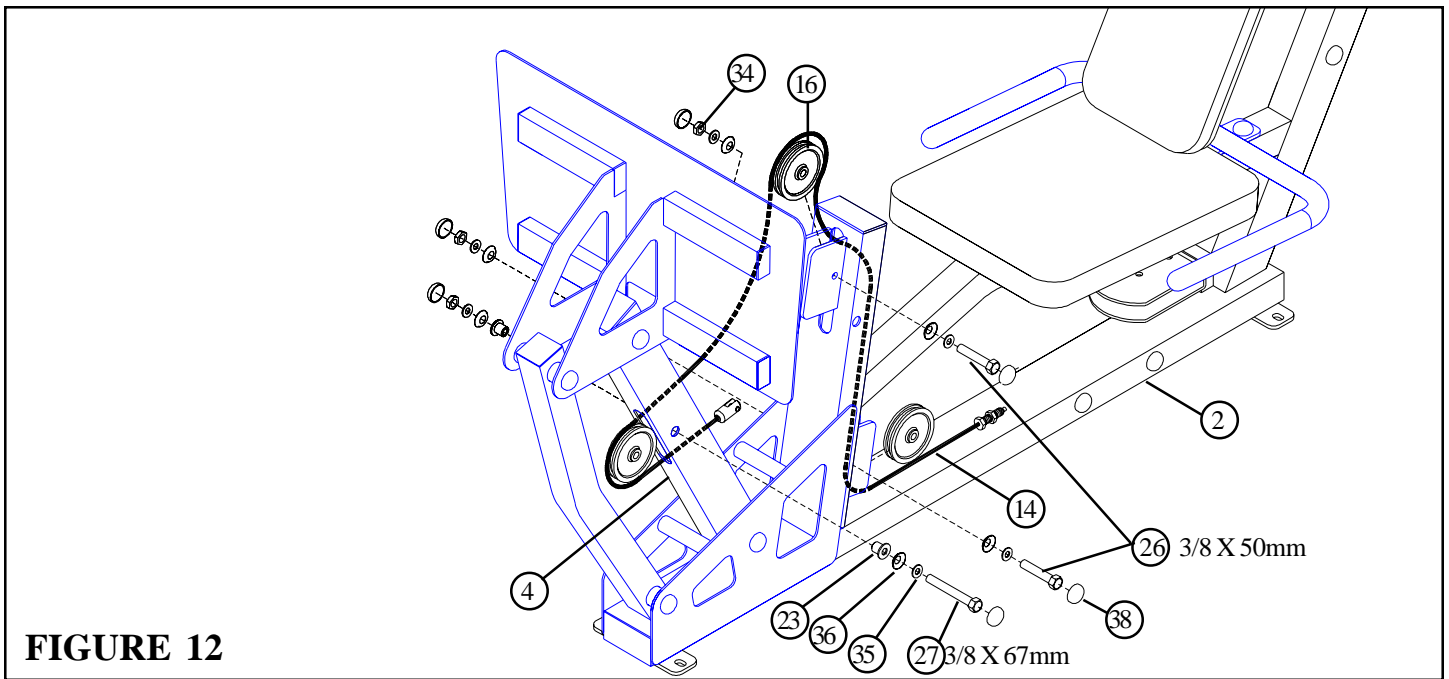

FIGURE 12
- Route the LEG PRESS CABLE (14) through the MAIN PIVOT ARM (4) as shown, and **SECURELY** assemble one 4-1/2" PULLEY (16) to the MAIN PIVOT ARM (4) using two RH CAPS (38), one 3/8 X 67mm BOLT (27), two 3/8 X 1/2" FLANGE SPACERS (23), two 3/8" SAE WASHERS (35), two 3/8" RH WASHERS (36) and one 3/8" LOW HEIGHT LOCK NUT (34) as shown in FIGURE 12.
- Route the LEG PRESS CABLE (14) between the upper BRACKETS and through the tube on the LEG PRESS FRAME (2) as shown, and **SECURELY** assemble one 4-1/2" PULLEY (16) to the BRACKETS using two RH CAPS (38), one 3/8 X 50mm BOLT (26), two 3/8" SAE WASHERS (35), two 3/8" RH WASHERS (36) and one 3/8" LOW HEIGHT LOCK NUT (34) as shown in FIGURE 12.
- Route the LEG PRESS CABLE (14) out between the lower BRACKETS on the LEG PRESS FRAME (2) as shown, and **SECURELY** assemble one 4-1/2" PULLEY (16) to the BRACKETS using two RH CAPS (38), one 3/8 X 50mm BOLT (26), two 3/8" SAE WASHERS (35), two 3/8" RH WASHERS (36) and one 3/8" LOW HEIGHT LOCK NUT (34) as shown in FIGURE 12.